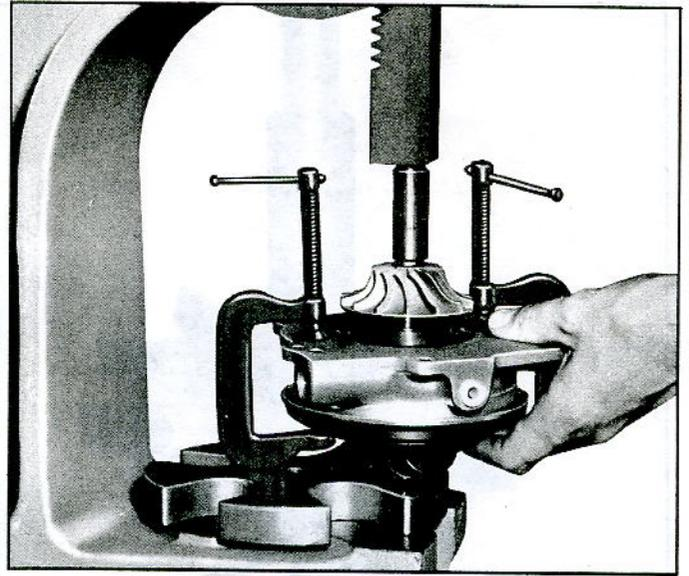

Fig. 53—Impeller Installation
- Press the impeller onto the shaft, using a hollow spacer such as Tool J-6880 until it bottoms in place (fig. 53), then remove "C" clamps.